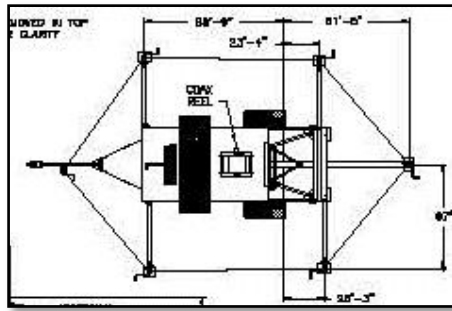

Fig. 5 Outrigger Positions
3. Remove the hitch pins that hold the rear "outriggers" in the stowed position. Carefully pull them out until the second set of pinholes is visible. Then reinsert the pins with the outriggers in the extended position (*see Fig. 5*). Repeat for the front "outriggers".